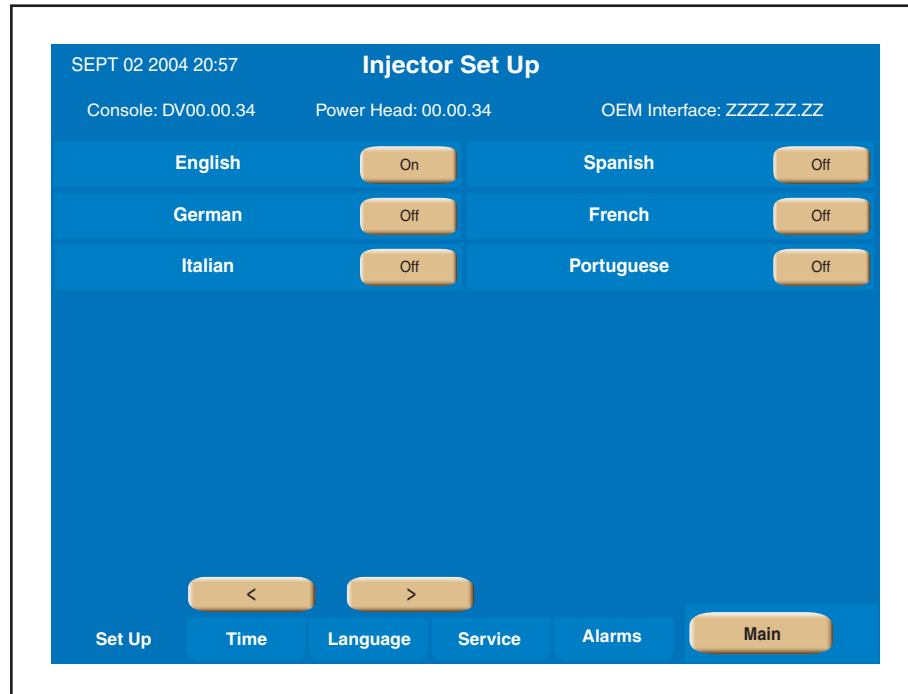

Figure 3-1-15 Selecting the Language
[Language] key (E) — This key allows the user to change the language of the injector. Refer to Figure 3-1-15.
Refer to Figure 3-1-15.